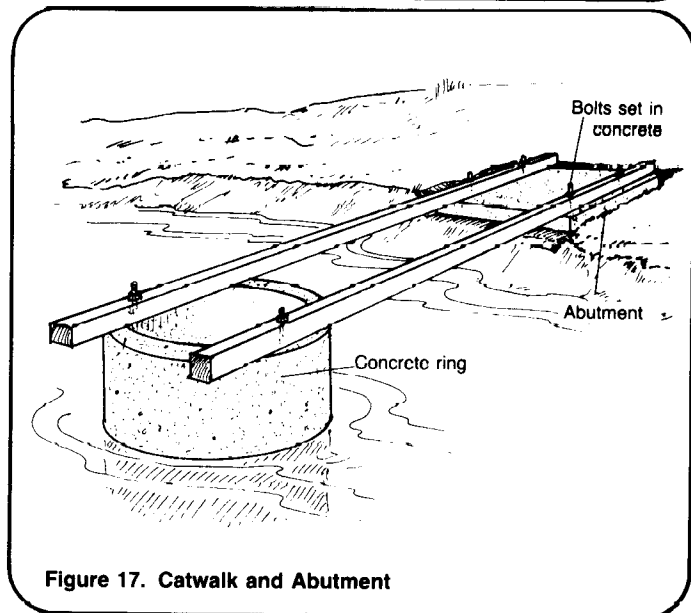

Figure 17. Catwalk and Abutment
5. Once the ring is in place, dig the pipe trench in the bank. To support the catwalk build a concrete abutment attached to a concrete piling as shown in Figure 17.